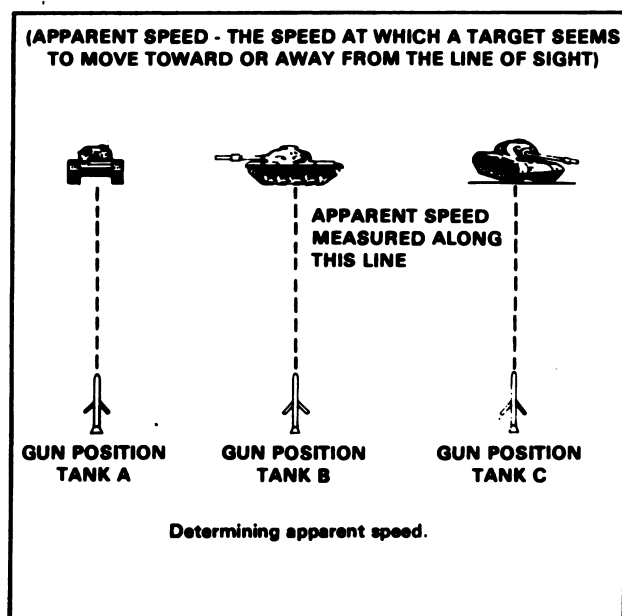

Figure 3
b. Apparent Speed Estimation (fig. 3). The speed at which a target seems to move toward or away from the line of sight is called apparent speed. In figure 3, Tank A has no apparent speed no matter how fast it is moving because it is moving directly toward the gunner. Tank B has an apparent speed equal to its actual speed because it is moving perpendicular to the gunner's line of sight. Tank C, moving at the oblique, has an apparent speed less than its actual speed.